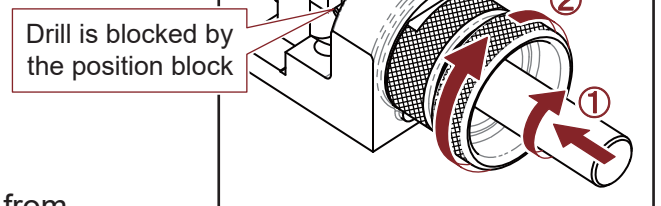

Fig. 6-3
4. Push the drill to the end and slowly turn it clockwise until it stops by the position block. (Fig. 6-3 step ①)
5. Turn the collet holder clockwise and tighten the chuck set to secure the drill. (Fig. 6-3 step ②)